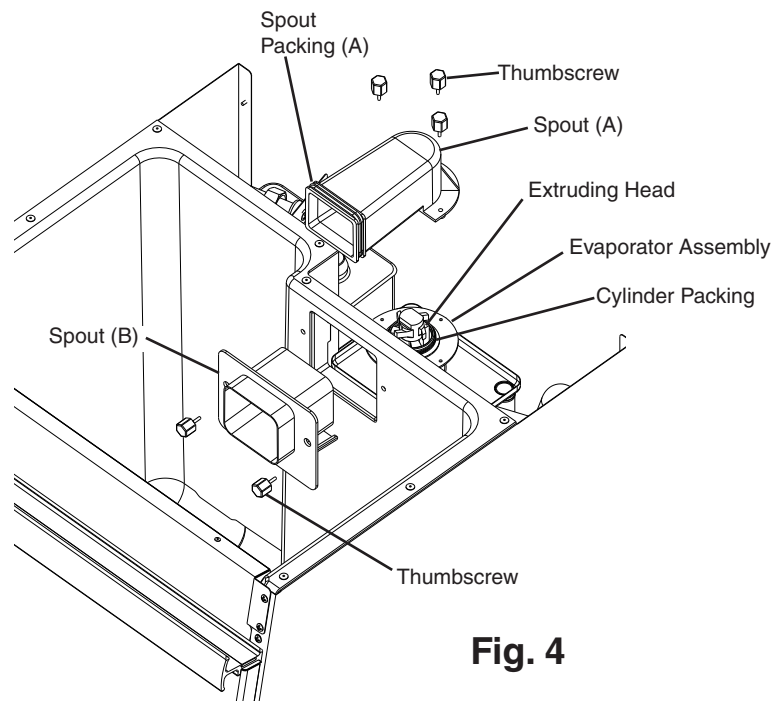

Fig. 4
- 8) Remove the thumbscrews attaching spout (B) to the bin, then remove spout (B). See Fig. 4.
- 9) Remove the thumbscrews attaching spout (A) to the evaporator assembly, then remove spout (A).
- 3) Remove the thumbscrews attaching spout (B) to the bin, then remove spout (B).
- 4) Remove the thumbscrews attaching spout (A) to the evaporator assembly, then remove spout (A). Remove spout packing (A) and the cylinder packing. See Fig. 4.